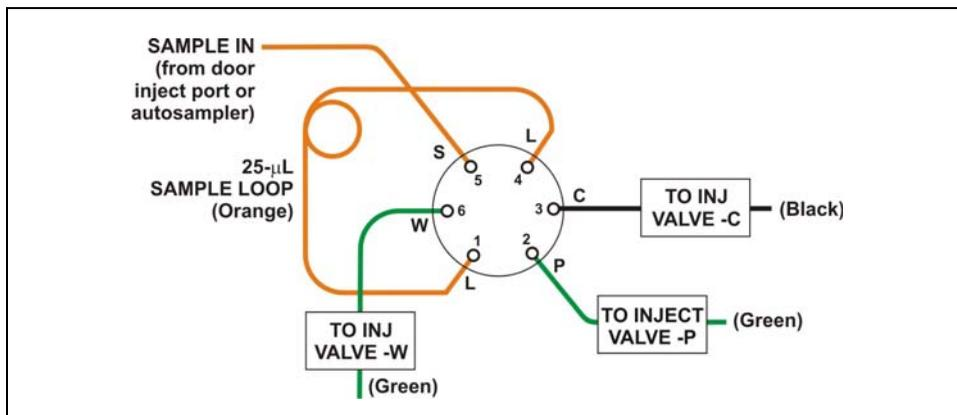

Figure 5-4. Injection Valve Plumbing
5. Reconnect all liquid lines to the injection valve (see Figure 5-4) or auxiliary valve.